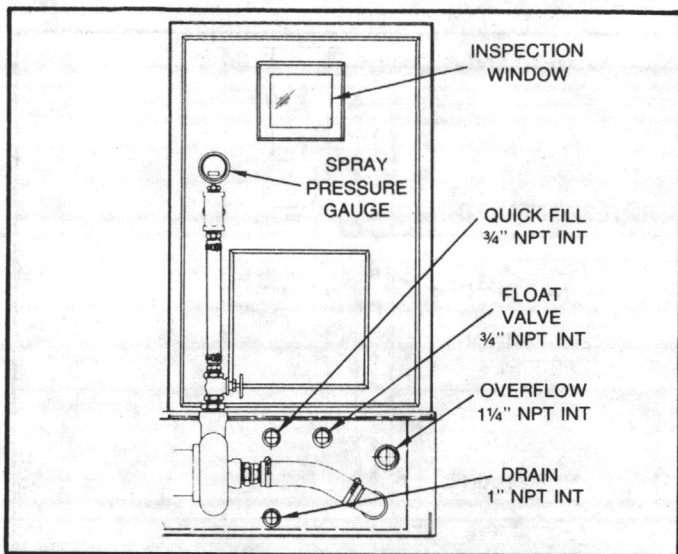

FIGURE 33A - Sprayed Coil Unit Tank Connections
1. Make-up water to the float line. See Figure 33A.